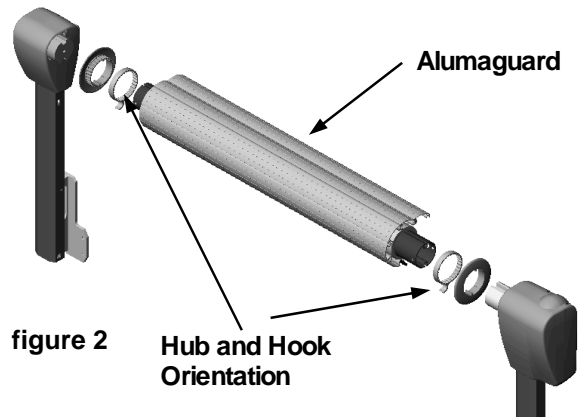

figure 2
**Note:** For Alumaguard models only, place the Hub and Hook assembly on first before proceeding with step C. As shown in **figure 2**.